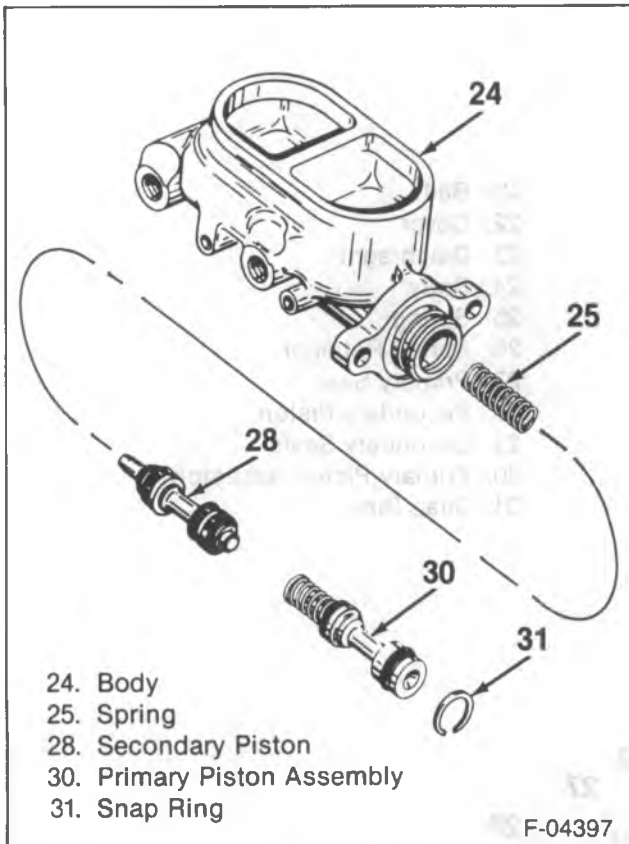

Figure 15—Cast Iron Master Cylinder Components
1. Cover (22).
2. Diaphragm (23).
3. Snap ring (31).
4. Primary piston assembly (30) (figure 15).